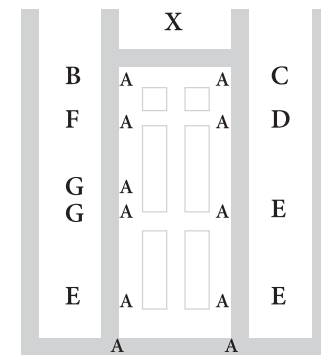
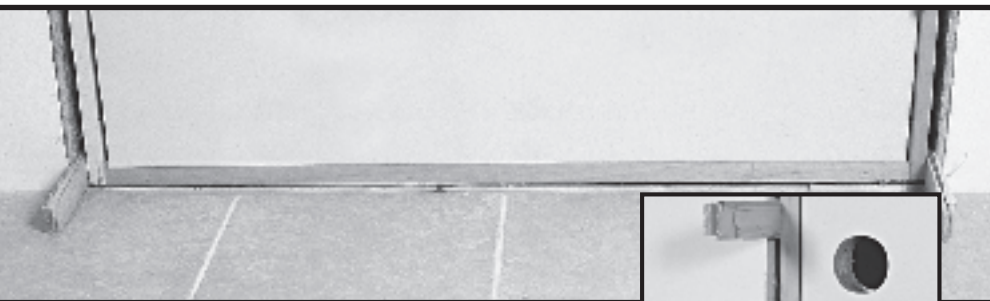
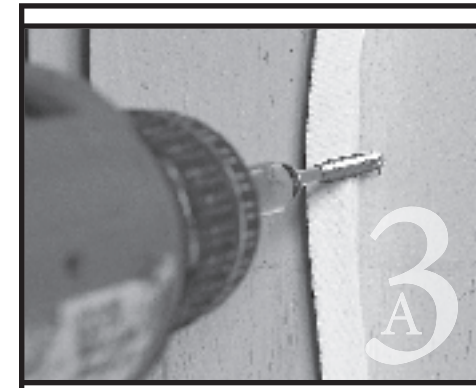

Figure 1 (left): Install the shims in the correct locations and in the correct sequence.
Figure 2 (right): Shims are placed above and below the dead bolt hole (Points G in Figure 1)
Figure 3 (left): Install screws underneath the weatherstripping.
- + Stand on the inside of the door and center the door in the opening. Shim tightly at the bottom corners of the door unit (Points A in Figure 1 below)
This will keep the door centered and the frame tight against the sill. Shim the top of the door on the latch side (Point B in Figure 1 below). Install shims until there is a consistent 1/8" gap between the top of the door slab and the frame header.
Shim the hinge-side of the frame (Point C in Figure 1 below). This will hold the door tight in its position relative to the frame. The door should operate freely with nothing but shims holding it in place.
Caution: Do not open door panel greater than 30 degrees until 2 1/2" screws have been installed. (Points D, E, F, and G in Figure 1).
With the door closed and from the inside shim directly behind the vacant hinge screw hole in each hinge (Points D and E in Figure 1) until there is a consistent 1/8" gap between the hinge-side jamb and the door slab edge along the entire height of the door. Gap between the latch-side jamb and the door slab edge should be 1/8" at the top and bottom of the door only. Drive one of the 2 1/2" screws supplied through the vacant hole in each hinge, through the jamb, shims and into the stud or rough buck.
Shim behind the latch-side jamb (Points F in Figure 1) approximately 8" from the top and bottom of the frame. Install shims until there is an even 1/8" gap between the jamb and the edge of the door slab along the door. Shim behind the latch-side jamb (Point G in Figure 1) just above and below the dead bolt hole, maintaining the 1/8" gap (Figure 2). Pull the weatherstripping away from the jamb (Points F on Figure 1) and screw 2 1/2" installation screws (by others) through the jamb and shims into the stud (Figure 3).